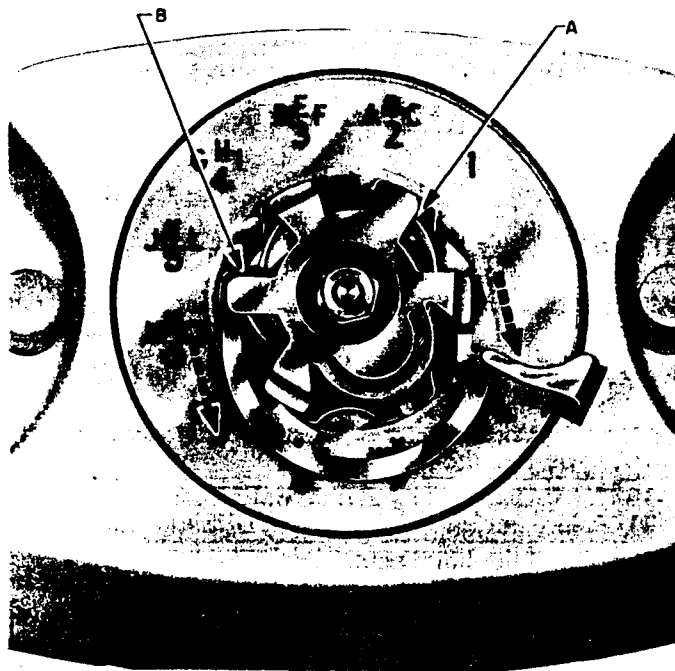

Fig. 25 — Lock Ring in Extreme Forward Position for Removal
2. Remove lock ring by rotating ring counter-clockwise until it is free (Fig. 24). Then raise ring until it is just under fingerwheel hub and slide toward front of dial through openings at A and B (Fig. 25 and 26) until lower end of ring can be lifted over dial hub. Slide ring toward back of dial and remove.